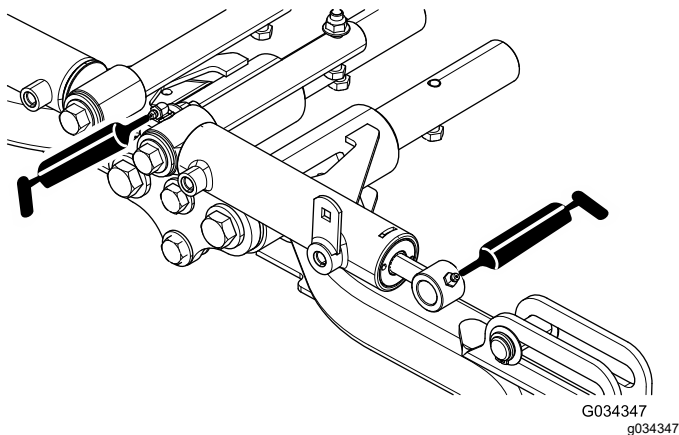

Figure 55
- Front lift-arm pivots and lift cylinders (3 each); refer to Figure 55.